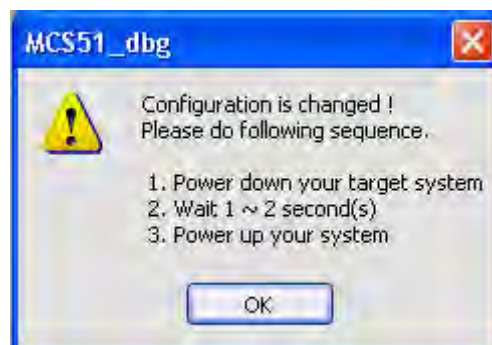

Figure 19. Configuration Is Changed Dialog
8. Click the **Write** button. If you have modified any of the settings in the Configuration dialog, the Configuration Is Changed dialog shown in Figure 19 will appear.